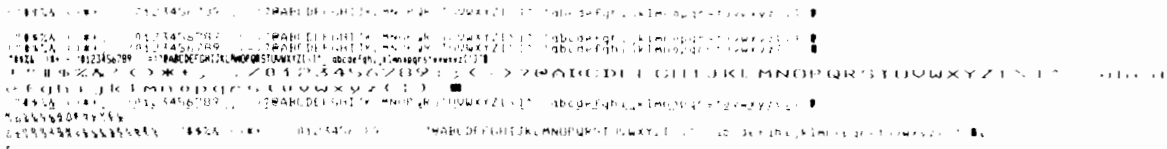

Figure 2-22. Line Printer Performance Verification
- e. When the self-test printout has been completed (see figure 2-22), the printer is reset.